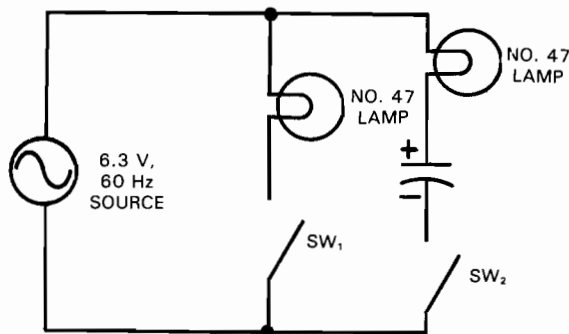

Fig. 10-4-1
1. Construct circuit shown in Fig. 10-4-1. A 680 μF capacitor may be mounted on power supply module board or placed on a single strip.